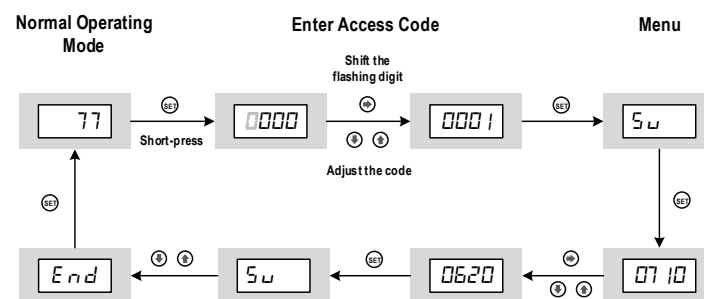

Figure 6. Adjust SV in the 0001 menu.
b. Follow the flowchart shown in Figure 6. This method is easier for large temperature changes. If no key is pressed after confirming the SV, the controller will return to normal operation mode automatically after 1 minute.